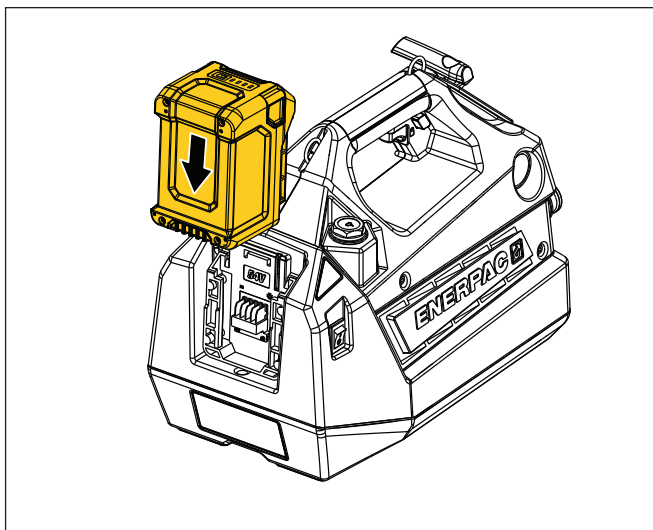

Figure 3: Battery Installation (typical)
- To install battery:** Slide the battery fully onto the battery interface of the cordless tool until it stops. Make sure the battery latches securely into place. See Figure 3.